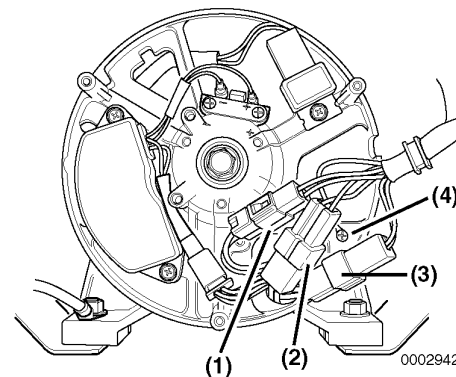

Figure 7-42
YDG3700 and YDG5500 models use three separate two terminal connectors (**Figure 7-42, (1, 2, 3)**) from the control panel and one ground wire (**Figure 7-42, (4)**) fastened to the rear housing.